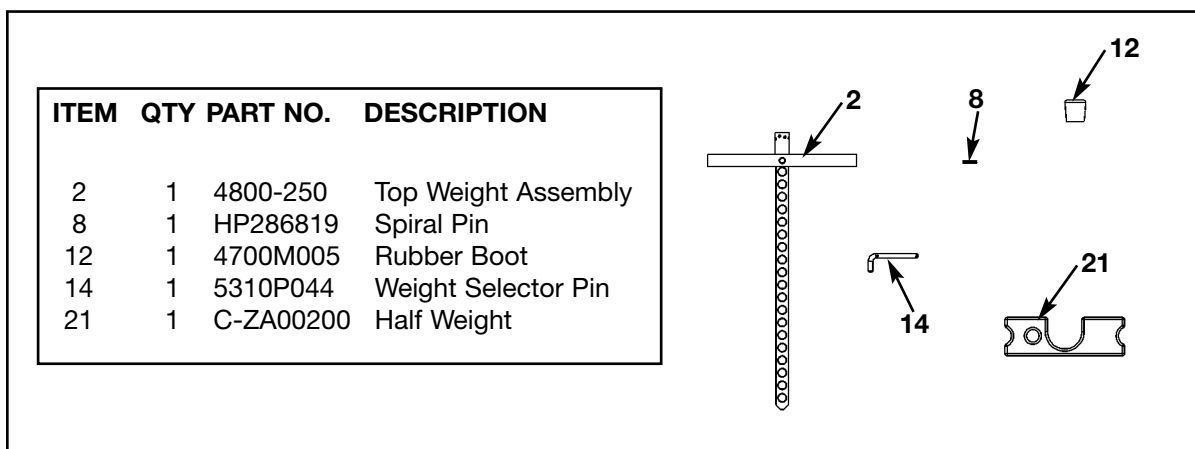

Figure 15
C. Locate the top weight package and verify the contents. See Figure 15.